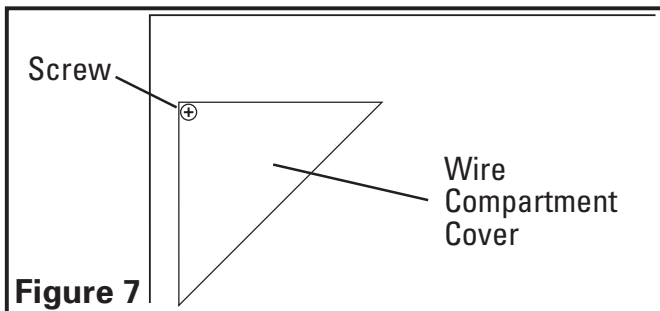

Figure 7
- 1a. **External Wire Compartment:** Remove the wire compartment cover screw and place cover in a secure place (Figure 7).